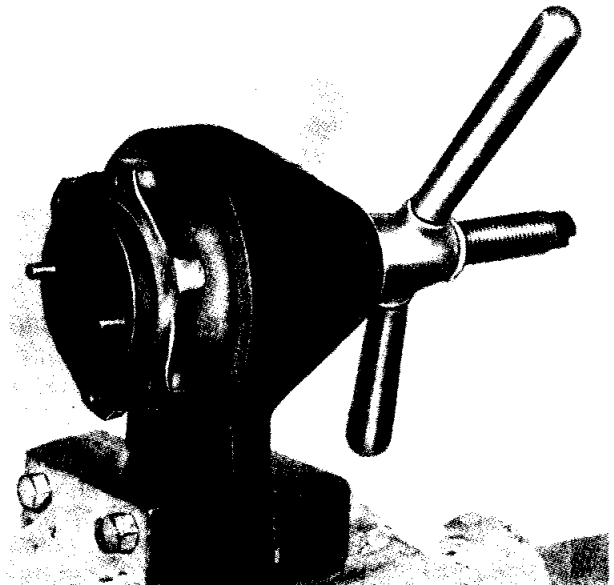
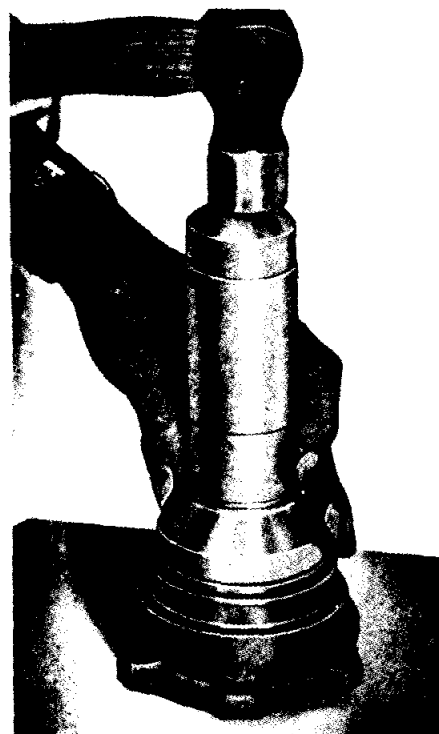

Fig. 4 Extracting outer ring of hub bearing from housing.
Fig. 7 Fitting oil seal into bearing housing.
- (iv) Extract the bearing outer ring from the housing, as shown in Fig. 4, after first tapping out the oil seal which should be renewed during re-assembly.
- (ii) Draw the bearing outer ring into the housing by using the same tool as shown in Fig. 4, and install new oil seal (Fig. 7).